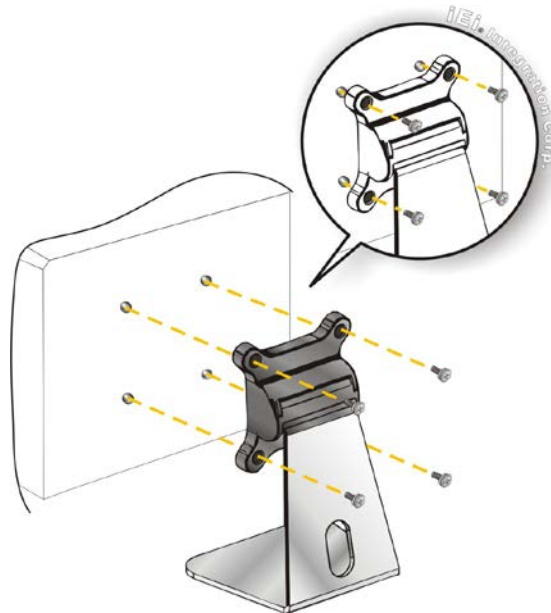

Figure 3-42: Monitor Stand Mounting
Step 2: Secure the monitor to the stand with the supplied retention screws (Figure 3-42).